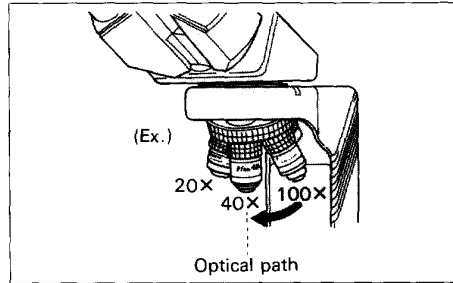

Fig. 2-11
⑥ Mounting and Dismantling the Objectives
- Mount the objectives into the holes of the revolving nosepiece in such positions that, when viewed from above, their magnifying power increases as the nosepiece is revolved clockwise (Fig. 2-11).